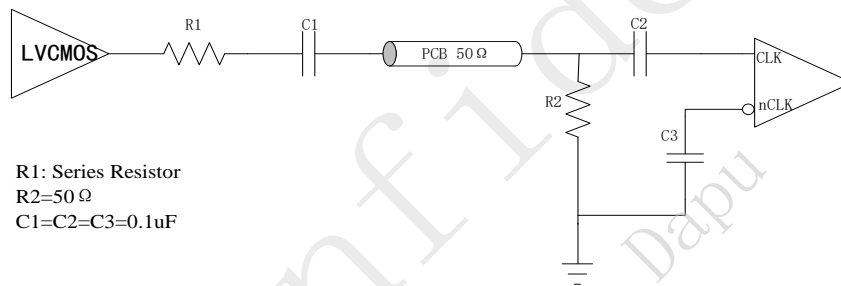

Figure 3. Single-Ended LVCMOS input, AC Coupling
**CLK/nCLK single-ended inputs:** It is possible to drive it with a single-ended clock. For large single-ended input signals, such as 3.3V or 2.5V LVCMOS, a 50Ω load resistor should be placed near the input for signal attenuation to prevent input overdrive as well as for line termination to minimize reflections. The CLK input has an internal bias voltage of about 1.4V, so the input can be AC coupled as shown in Figure3. The output impedance of the LVCMOS driver plus R1 should be close to 50 Ω to match the characteristic impedance of the transmission line and load termination.